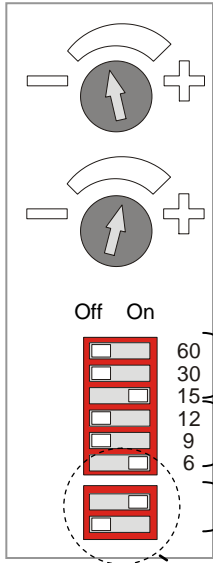

Fig.5.
- i. Slide one of the three switches marked as 'Normal/Trickle Speed' in *fig.5* to the right (on position) to select that flow rate for trickle speed.
- i. Slide one of the three switches marked as 'Boost Speed' in *fig.5* to the right (on position) to select that flow rate for boost speed.